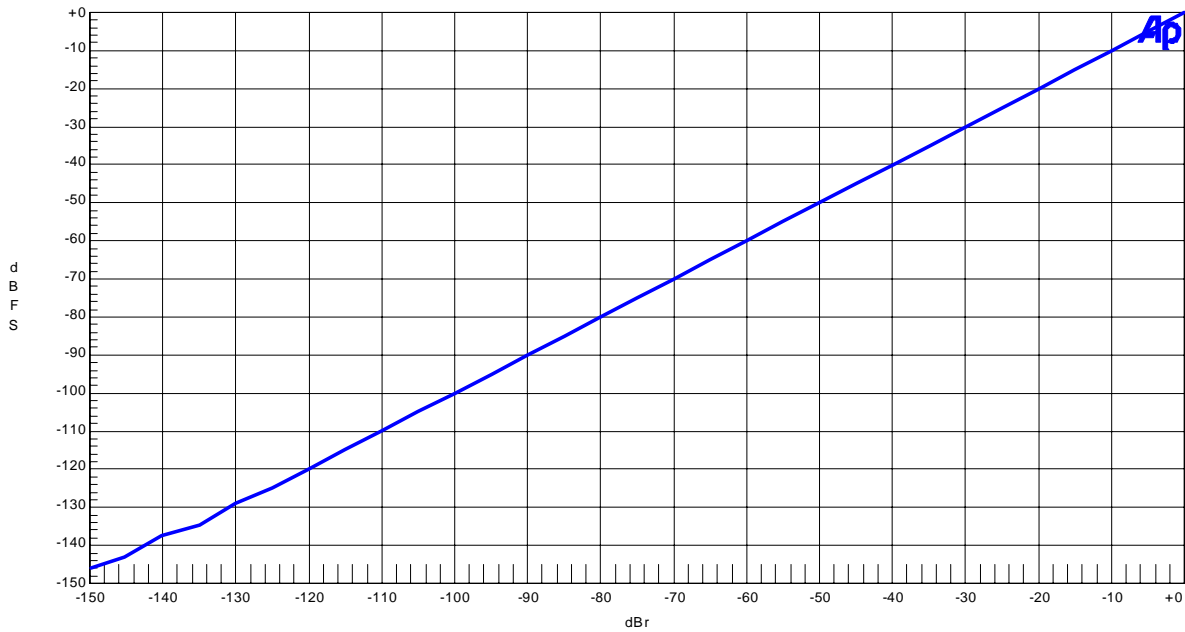

Figure 1-2-6. Linearity (fin=1kHz)
- Figure 1-2-6. Linearity (fin=1kHz)